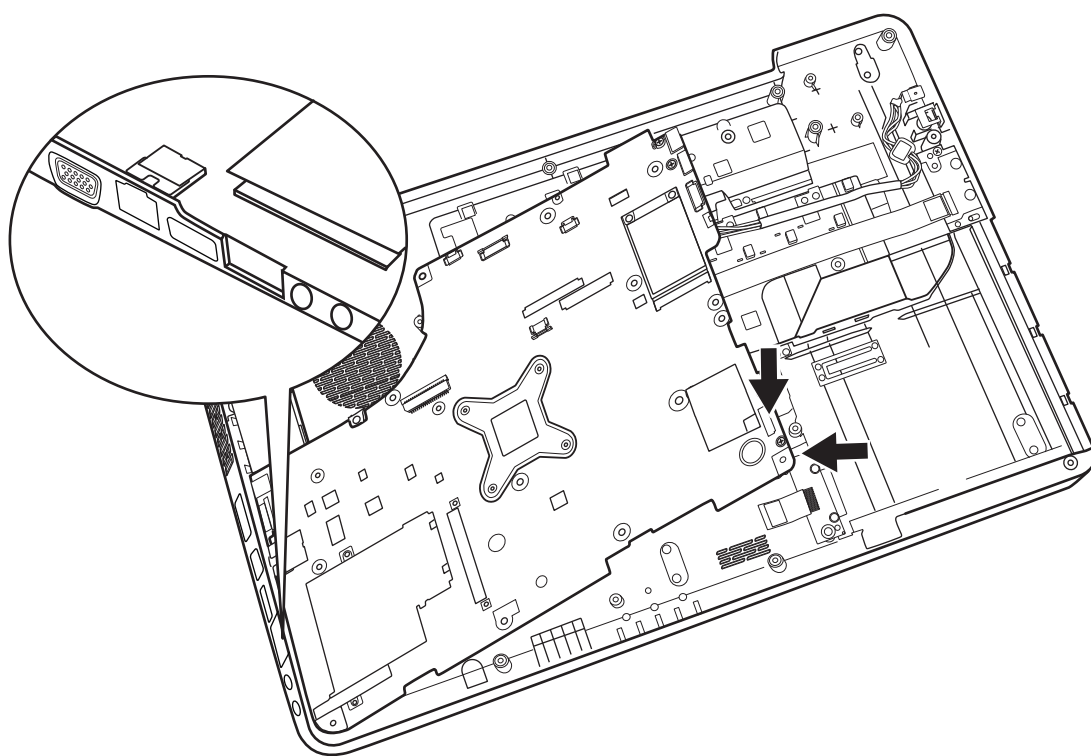

Figure 4.25 Aligning the motherboard connectors
2. Align the connectors on the left side to their corresponding holes in the logic lower assembly as shown in Figure 4.25.